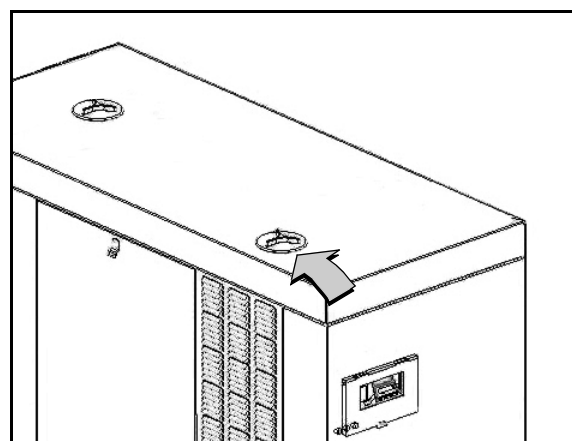

Figure 5-18. Access Oil Supply Tank
1. Rotate plastic cover counter-clockwise and remove from top of enclosure. See Figure 5-18.